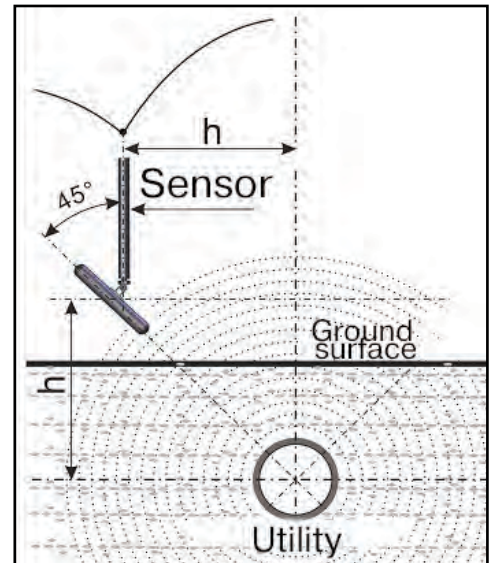

Fig.3.5
2. Fix the sensor antenna at a 45 angle to the ground surface, minimum of the signal is observed at a distance from the point «above the route», equal to the depth of the utilities, when the antenna axis intersects the axis of the route. This is the indirect method of measuring the depth of utility (**fig. 3.5**)